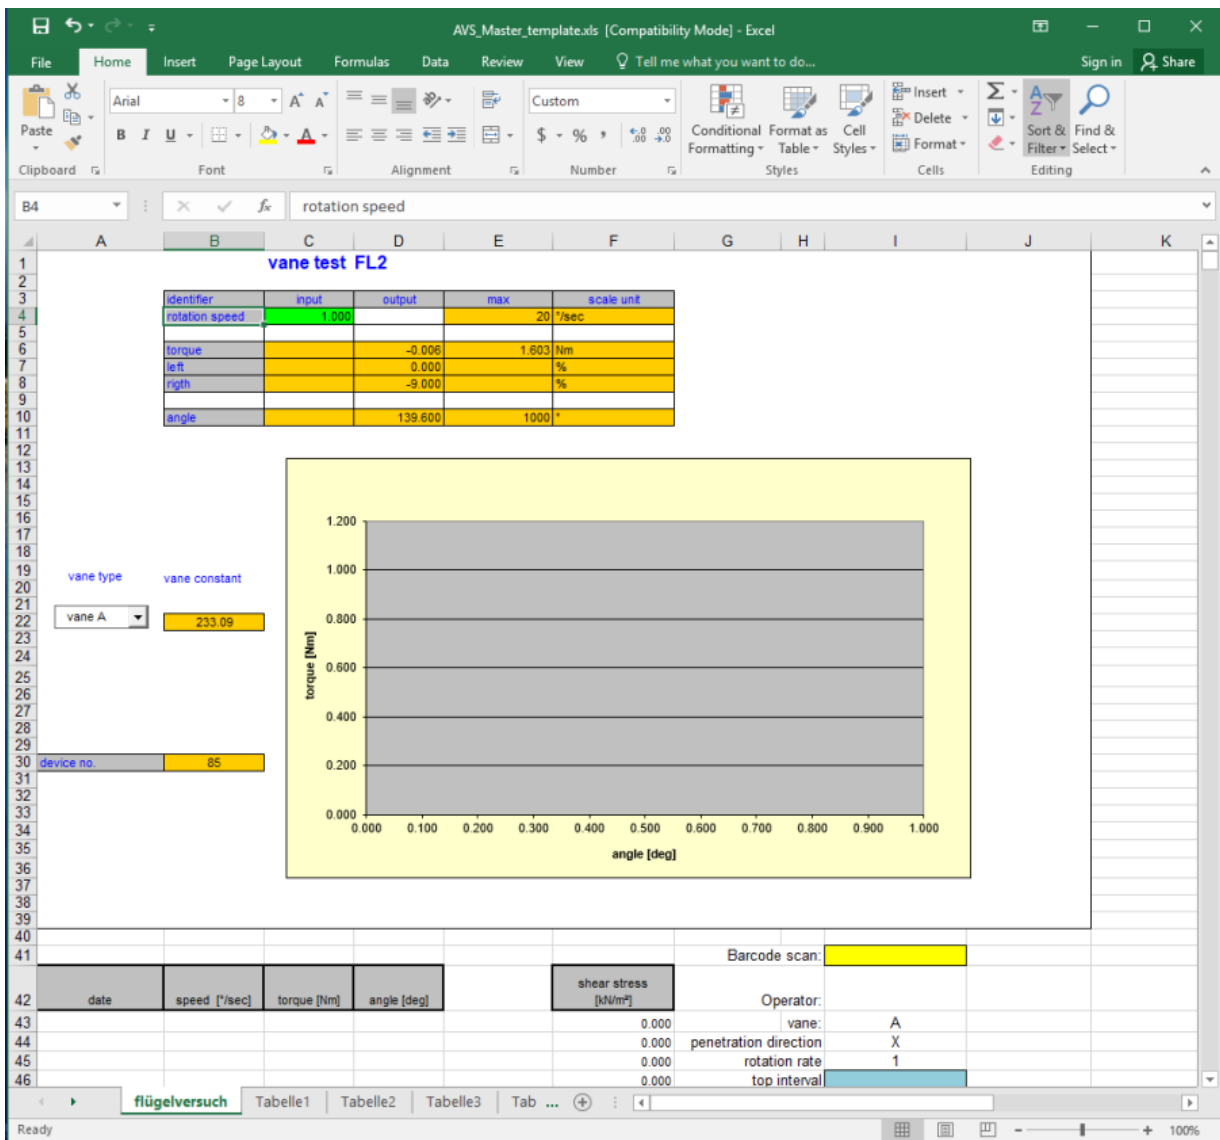

Figure 4. Rotation Speed and Vane Type.
6. Check the rotation **speed** (1–1.5) and **vane type** (A, drop-down list) (Figure 4).